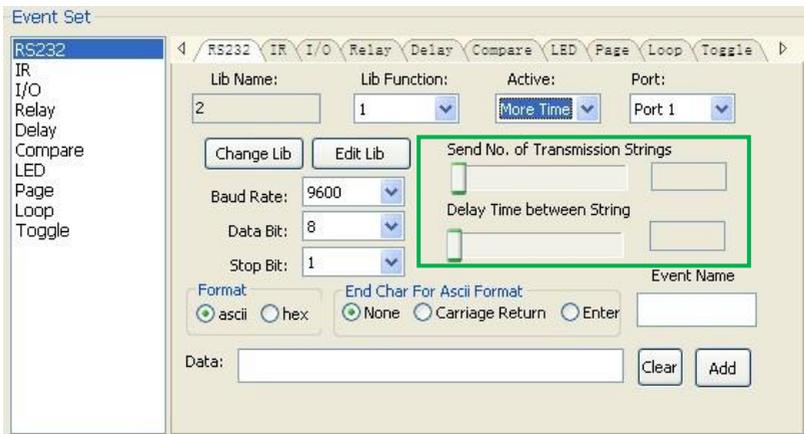

Figure 18 RS232 send number of strings & delay setting
- 2) There are two ways to send the RS232 data string: “send RS232 once” and send “more times”. When you select “more times”, you must also select the number of times to send the data string, and the delay between each time the data is sent, see Figure 18 below.